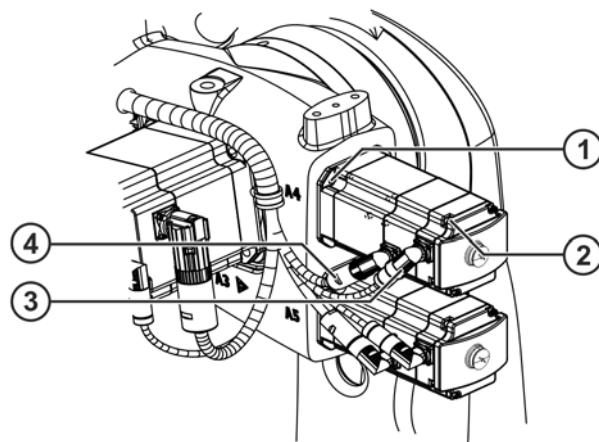

Fig. 11-9: Removing motor A4
1. Release and unplug connectors XM4 and XP4 at the sockets (**>>> Fig. 11-9**).